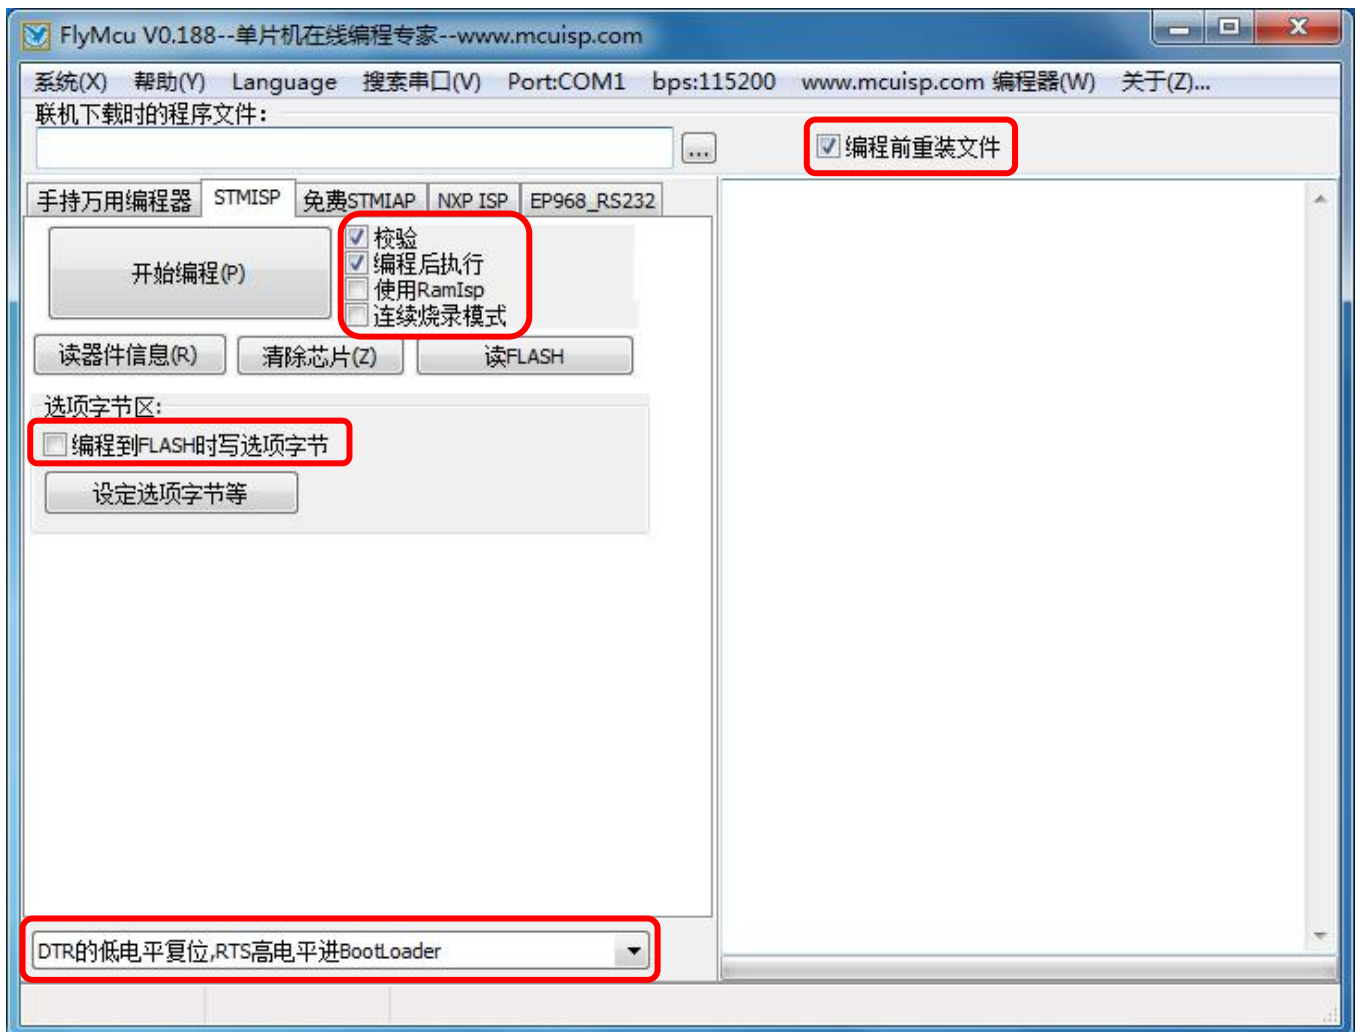

Figure 18 : Configuration of FlyMcu
4) Open the FlyMcu downloading tool and configure it as shown in Figure 18.